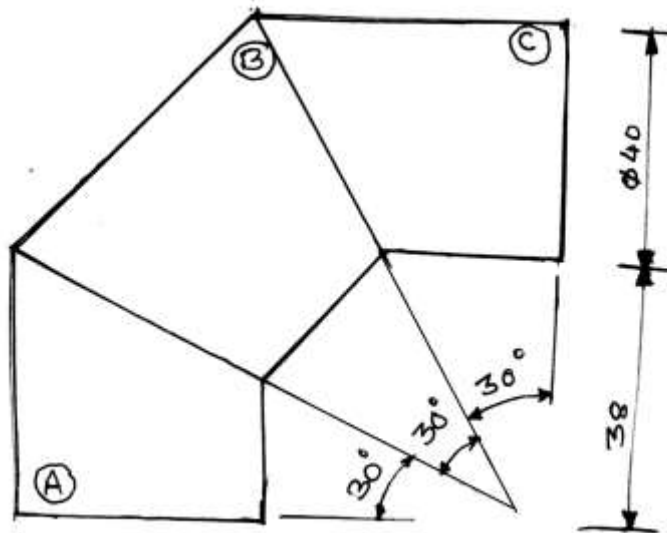

Fig.1
Q.3 Fig .1 show partial Auxiliary view & incomplete T.V of an object complete the top view and also 12
Elevation of the three-pieces 'A', 'B' & 'C' cylindrical elbow pipe is given in fig 1 draw the development of all pieces. 13